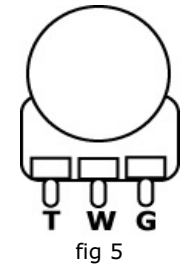

fig 5
- 5) There are three lugs on a pot, labeled as 'T', 'W', and 'G' in fig 5.